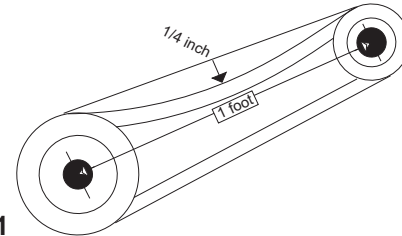

Figure 1
- Adjust the motor plate until proper tension is reached. For proper tension, a deflection of approximately 1/4" per foot of center distance should be obtained by firmly pressing the belt. Refer to *Figure 1*